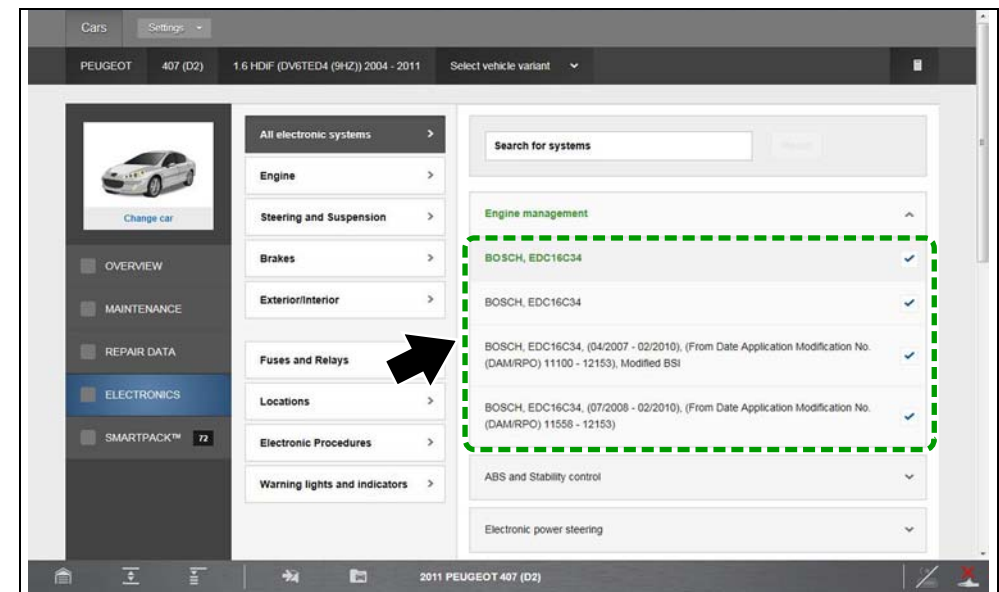

Figure 9-27 Electronic Systems Options Window
3. Electronic vehicle system options are displayed in the options window (*Figure 9-27*).